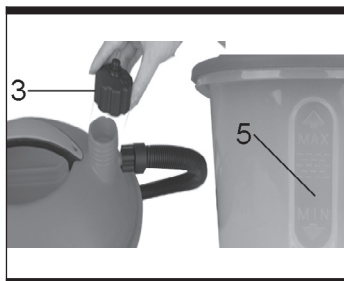

Fig 2
2. Unscrew the safety cap (3). (Fig 2)
5. Fill the water tank to the MAX level (5) for the longest steaming time. For a shorter steaming time use less water, but do not fill to less than the MIN level.